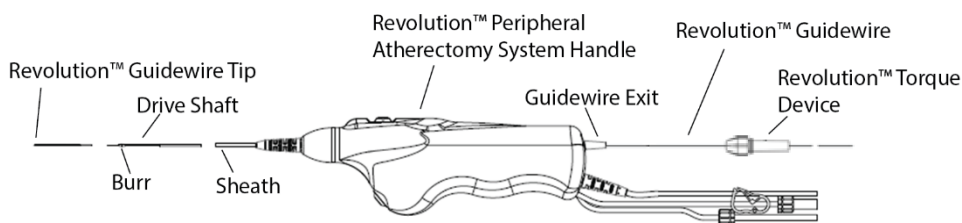

Figure 8: Tighten torque device to guidewire
8. Tighten the torque device tightly to the guidewire behind the guidewire exit as shown in Figure 8. Apply tension to the guidewire by gripping the torque device to provide wire support and allow the drive shaft to track easily over the guidewire.